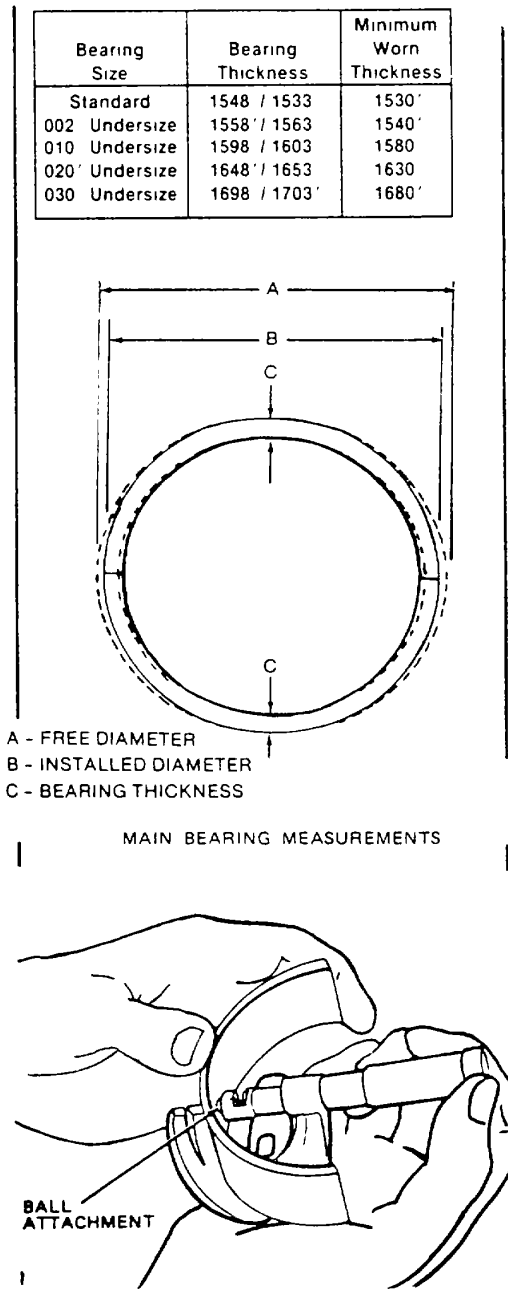

Figure 4-45. Measuring Thickness of bearing Shell.
- (1) Inspect bearing shells for scoring pitting, flaking, etching, loss of babbitt or signs of overheating.
- (2) Inspect back side of bearing shells for bright spots. If such spots are present, discard bearing shells.
- (3) Measure thickness of bearing shells at point "C", 90° from the parting line as shown in figure 4-45. Place tool J4757 between bearing shell and micrometer to obtain measurement. Bearing shell thickness will be total thickness of steel ball in the tool and bearing shell, less diameter of the ball.
- (4) Replace all bearing shells if any are thinner than .1530 inch. Figure 4-45. Measuring Thickness of Bearing Shell.